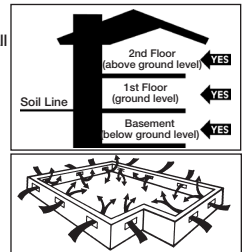

Figure 1
- Crawl spaces must be a minimum of 18" (46 cm) from the ground to the underside of the joists. A ground cover of 6-20 mil black polyethylene film is essential as a vapor barrier with joints lapped 6" (15 cm) and sealed with moisture resistant tape. The crawl space should have perimeter venting equal to a minimum of 1.5% of the crawl space square footage. These vents should be properly located to foster cross ventilation (Figure 1).